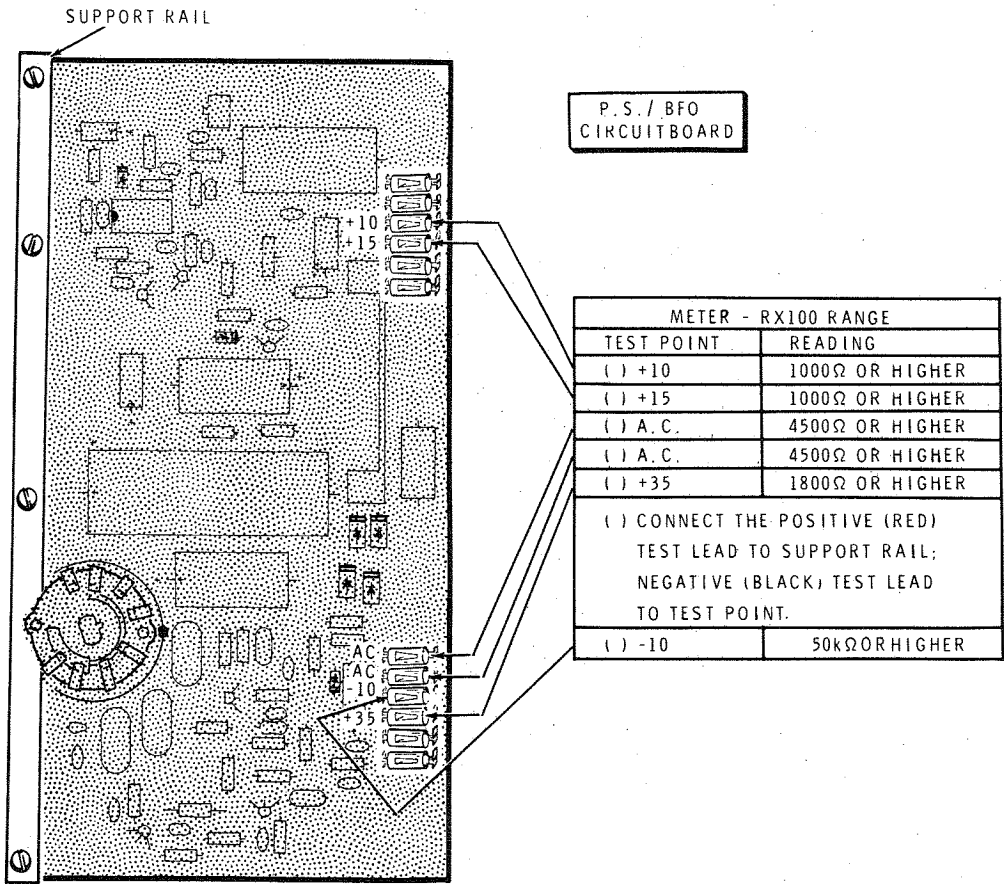

FIGURE 1
- () Position the power supply/BFO circuit board as shown in Figure 1.